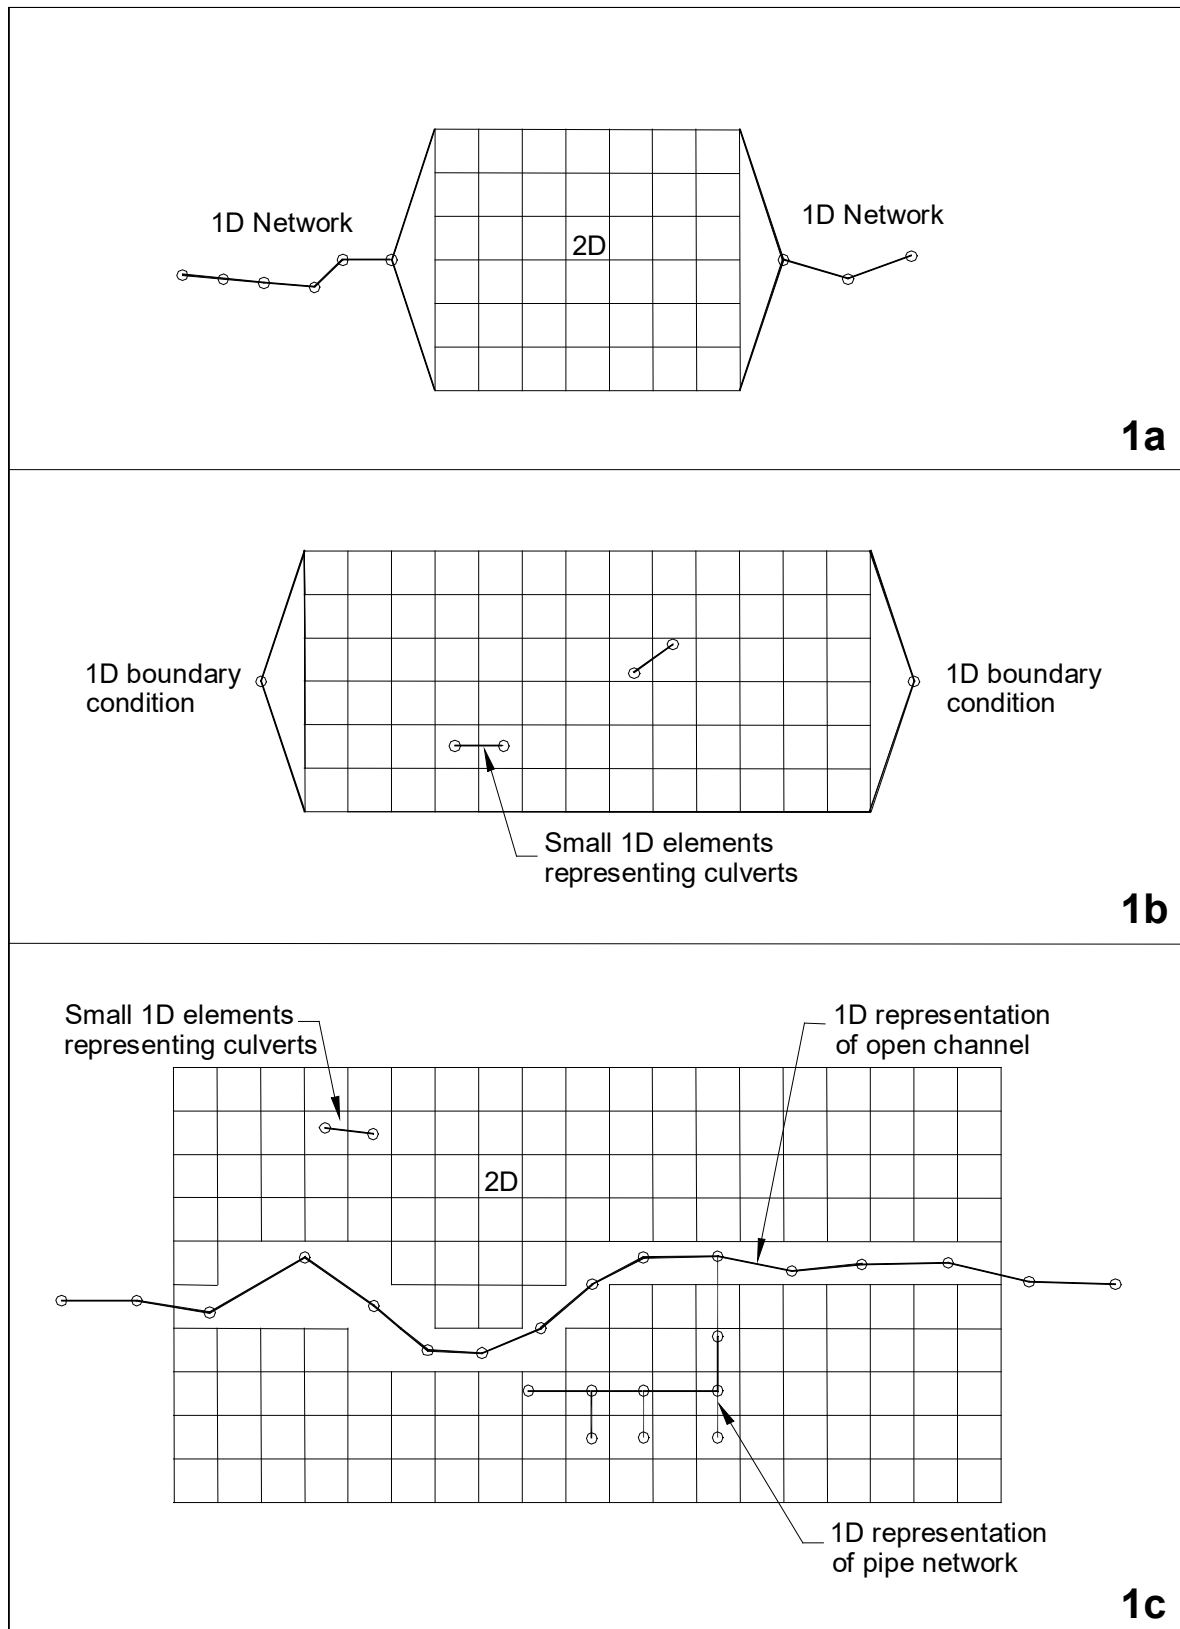
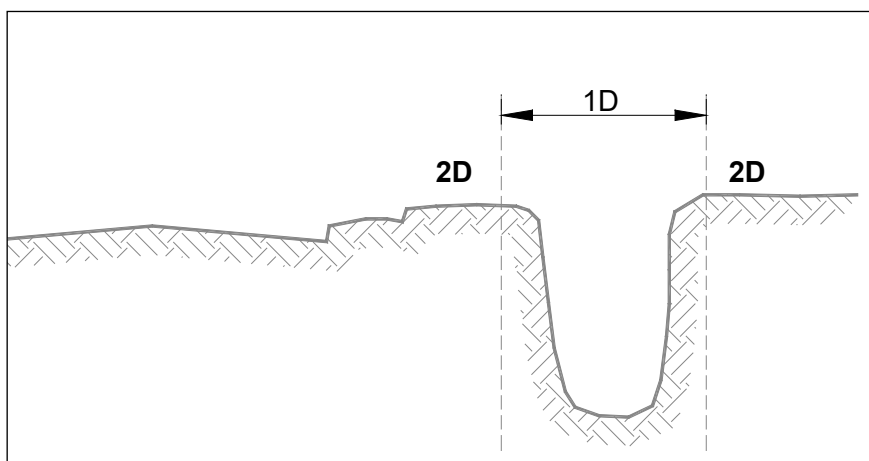
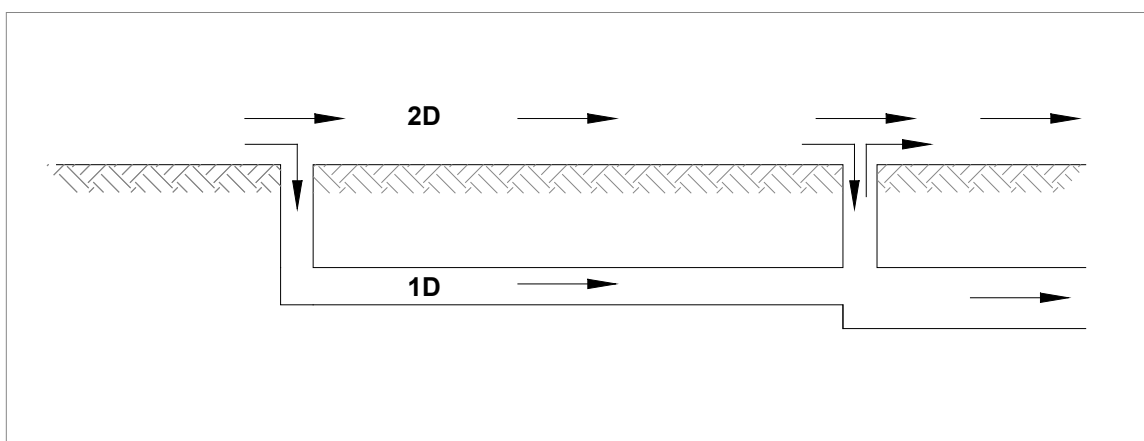
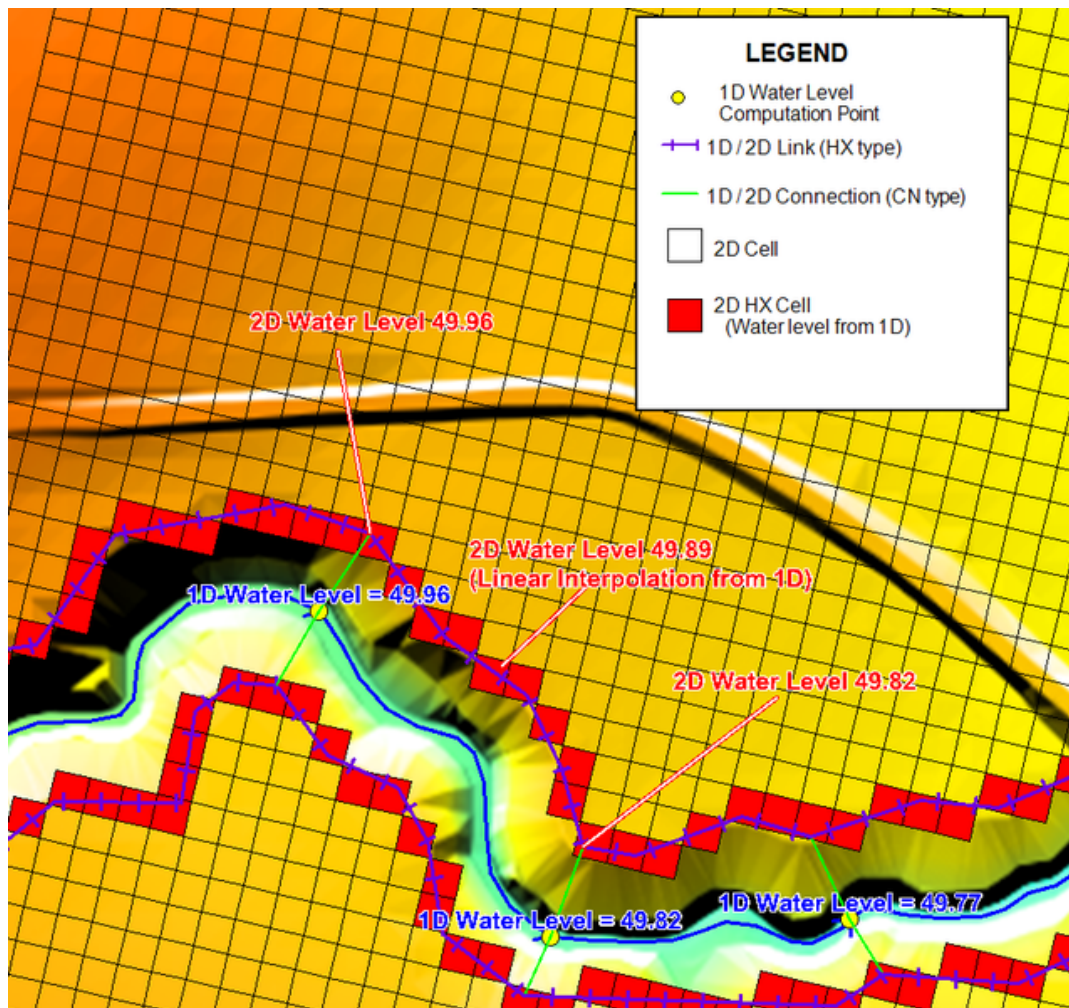

**Figure 8-1 1D/2D Linking Mechanisms**
**Figure 8-2 Modelling a Channel in 1D and the Floodplain in 2D**
**Figure 8-3 Modelling a Pipe System in 1D underneath a 2D Domain**
Figure 8-4 HX Schematic – Plan View
TUFLOW 1D and 2D domains can be linked in a variety of ways as illustrated in Figure 8-1 (Benham, et al, 2003). The simplest approach is to replace part of a 1D model by nesting a 2D domain inside the broader scale 1D model, as shown in Sketch 1a in Figure 8-1. This approach was developed by Syme (1991) and has been widely applied and ever since.
- 1D elements through 2D embankments (Sketch 1b in Figure 8-1).
- Nesting or “carving” of a 1D channel through a 2D domain (Sketch 1c in Figure 8-1 and Figure 8-2).
- 1D pipe networks underneath the 2D domain (Sketch 1c in Figure 8-1 and Figure 8-3).
The HX lines are connected to the 1D nodes via connection objects, these are CN type objects in the 2d\_bc format layer. In Figure 8-4 the HX lines are shown as along the top of the channel as purple lines, the 1D nodes are shown in yellow and the CN lines in green. The CN lines are snapped to vertices along the HX line, at these vertices the water level is connected to the 1D node. Along the HX lines, between the 1D node connections the water levels are linearly interpolated, for this reason it is a minimum requirement that a HX line have a CN line connected to each of its end. If the same node is connected to the HX line at each end, as per diagram 1A in Figure 8-1, the water level in the 2D cells will be the same along the entire HX line and the line should be digitised perpendicular to flow.